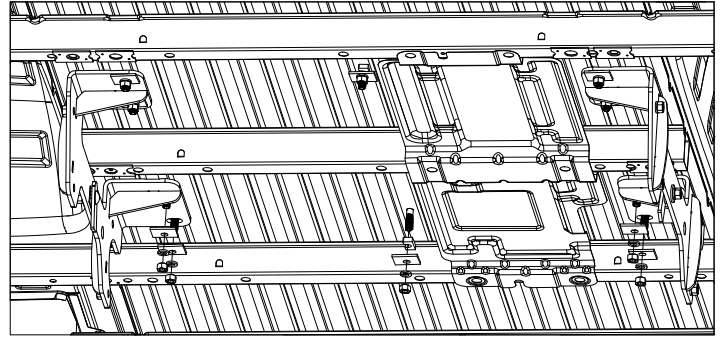

Figure D6: View under bed from rear of truck. (Frame & U-bolts not shown.)
6. **Install hardware on forward mounting rail.** Under the bed install an offset square washer, 1/2" lock washer, and 1/2" finish nut on each of the bolts, see Figure D6. Place the U-shaped spacer. Hand tighten hardware.